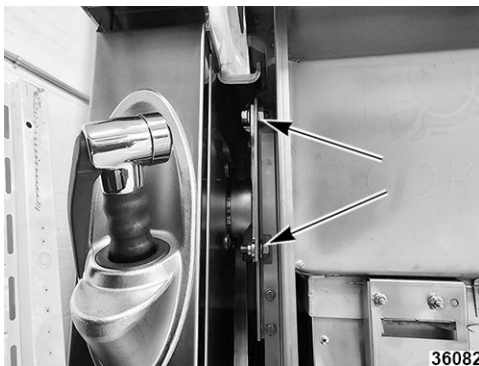

Fig. 79
8. Loosen tank axis screws (1, Fig. 79 and Fig. 80) on both sides of tank.